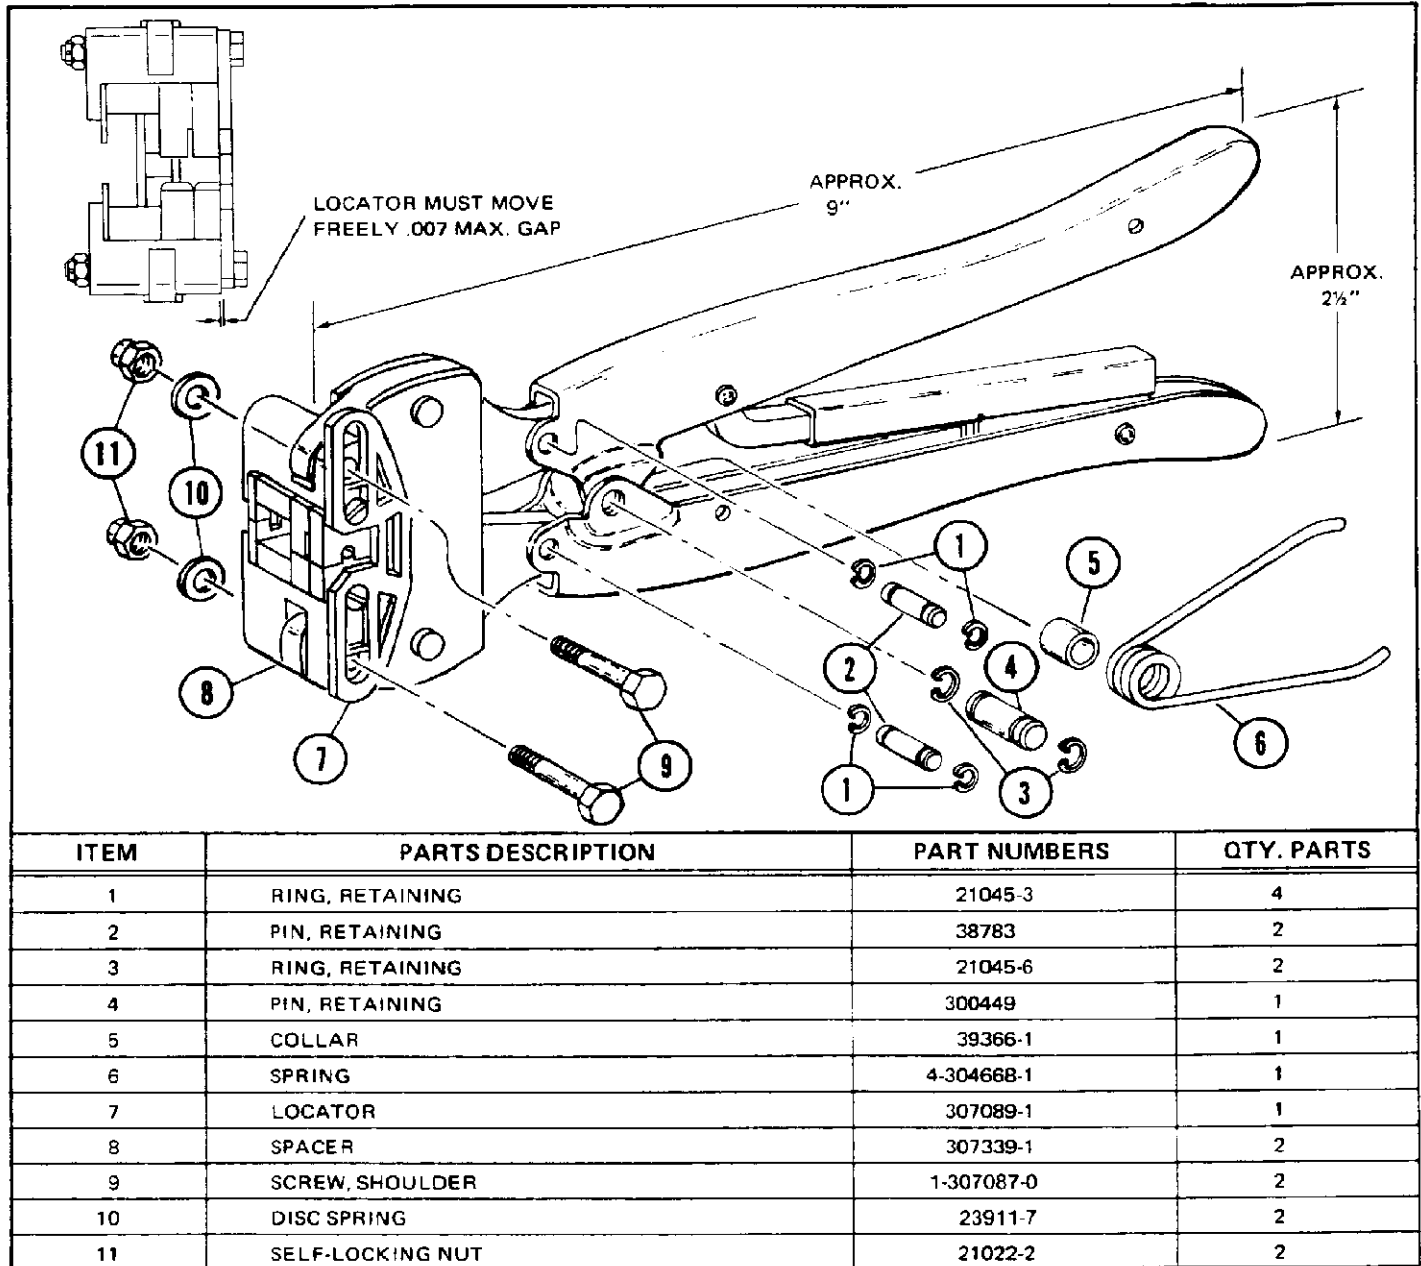

Figure 17
- (a) Visually inspect tool for missing pins or retaining rings, then operate tool and note return action of spring-loaded handles. If parts are missing or spring in handles is defective, refer to Figure 17 for customer replaceable parts.
It may be advantageous to stock certain replaceable parts to prevent loss of production time. Figure 17 lists the customer replaceable parts that can be purchased from AMP Incorporated, Harrisburg, PA, or a wholly-owned subsidiary of AMP Incorporated. Parts
other than those listed on Figure 17 should be replaced by AMP Incorporated to insure proper CERTI-CRIMP ratchet adjustments. For tool repair service or CERTI-CRIMP ratchet adjustment, the tools should be returned to AMP Incorporated, Harrisburg, PA, or a wholly-owned subsidiary of AMP Incorporated.